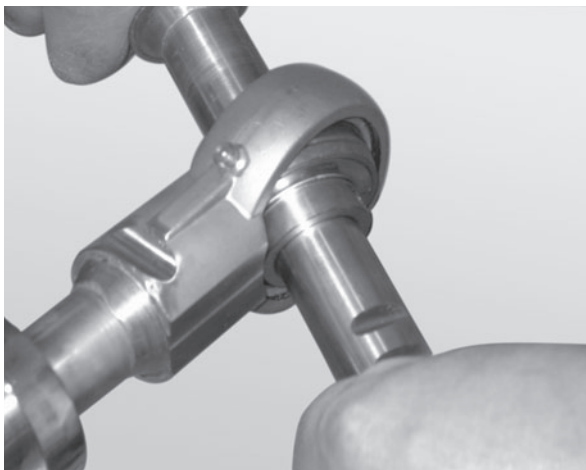

Figure 90
2. Insert the rod end of a second bearing shaft through the bearing (**Figure 90**).